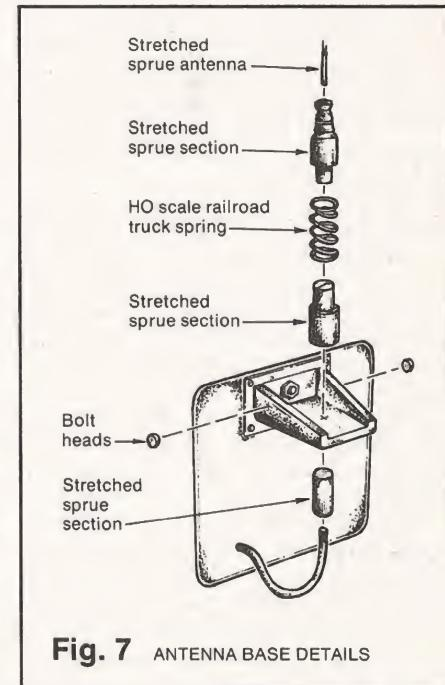

Fig. 7 ANTENNA BASE DETAILS
**Reworking the turret.** I built the basic turret structure straight from the box, with only a little putty to fill small gaps. The coaxial .30-caliber machine gun was "removed for maintenance" and the gun opening stuffed with a tissue-paper rag to keep out dirt and rain. Figure 7 shows how I reworked the radio antenna base with several pieces of stretched sprue and an HO scale railroad truck spring. I detailed the turret hatch hinges with tiny pieces of sprue to represent the ends of the hinge pins, and made the lens for the turret spotlight from transparent sprue from an aircraft kit.